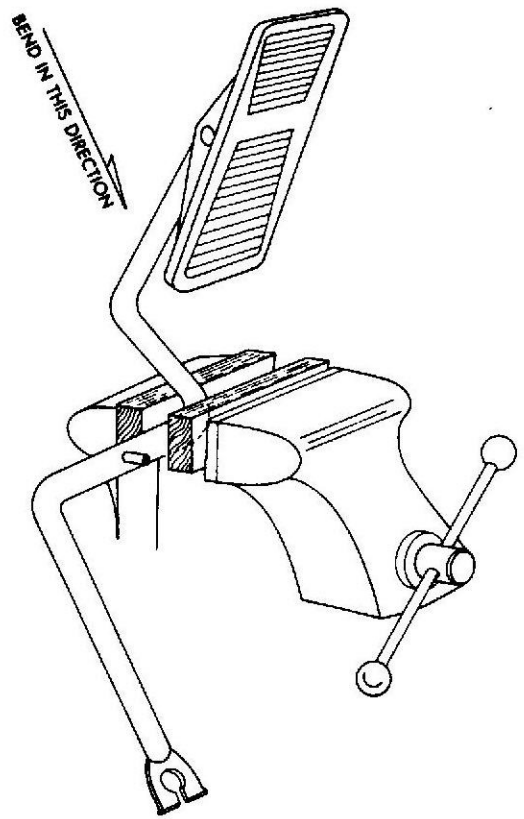

Fig. 4
(7) Bend accelerator bellcrank as shown in figure 4, distance recorded in step (2).